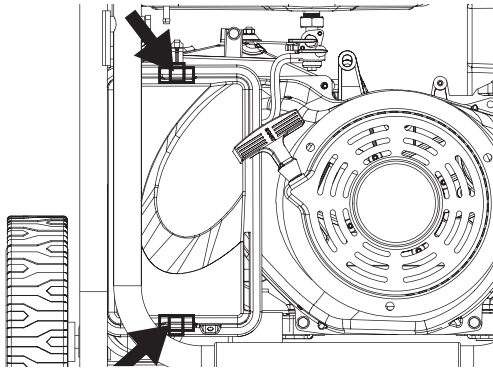

Figure 21 - Unclip air filter
3. Unclip the clips on the top and bottom of the air filter cover (Figure 21).